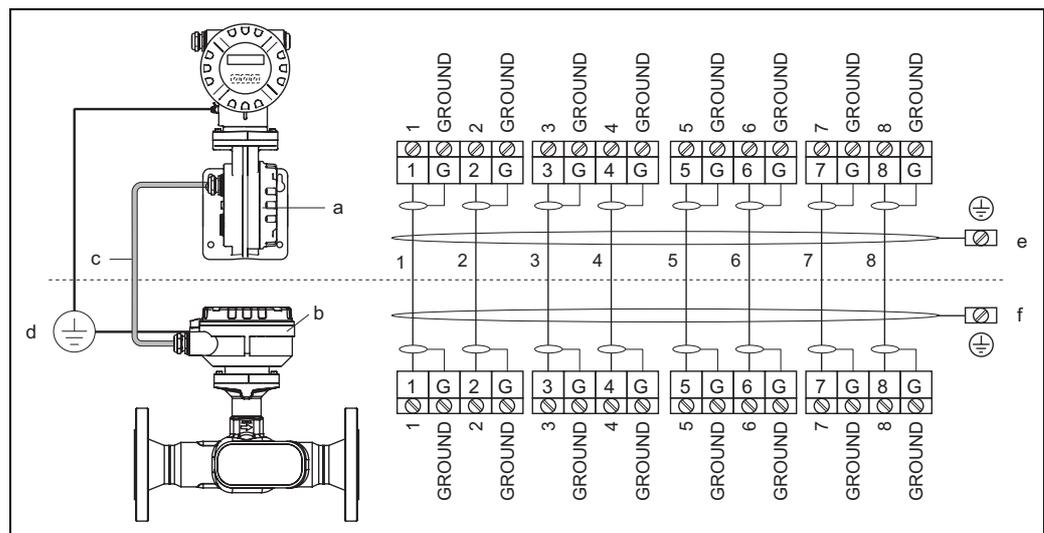

Fig. 13: Connecting the remote version
- The remote version must be grounded. In doing so, the sensor and transmitter must be connected to the same potential matching (see Fig. 13, d).
3. Wire the sensor and transmitter in accordance with the electrical connection diagram: see Fig. 13 or the wiring diagram in the cover of the connection compartment.